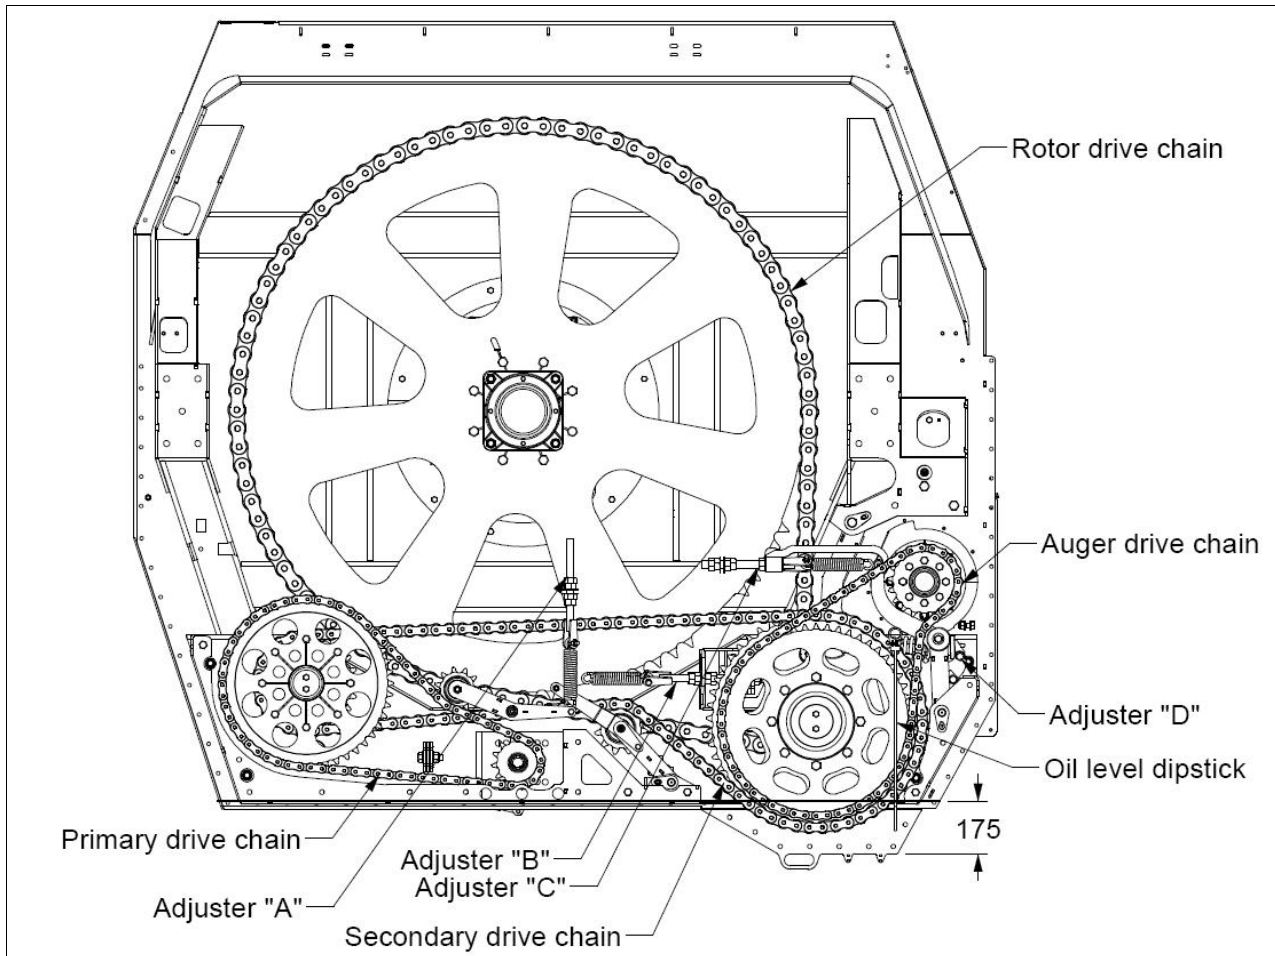

Figure 8: Keenan Mech-Fiber 400 drive system
1. Each week check the condition of the chain tension arms and adjust as required. There are four chains used on the Mech-Fiber 400 model. The primary drive chain (ASA120) drives the primary idler shaft from the input shaft (see figure 8) and the secondary chain (ASA140HS) drives the secondary idler. The third chain (ASA200HS) drives the rotor. The fourth chain (ASA120) drives the auger independently. All four chains are tensioned by a spring assembly on the slack side of the chain.
2. Each day check the level of the oil reservoir (see figure 8). Ensure it is between the 2 indicator marks on the dip stick. The top indicator represents 70 litres of oil (recommended) and the lower indicator represents 50 litres (minimum). If the oil level is low, top it up with chain saw oil (the properties of which allow it cling to the chains longer). Do not use grease on the chains, as it is unsuitable for the application and will not allow lubrication of the vital internal parts of the chain.
Primary Chain: This preload tension can be set by adjusting the vertical threaded bolt in the centre of the drive system (adjuster “A” in figure 8). The correct tension will be applied to the chain when the tension spring is extended to **220mm** between mounting centres. Once set, retighten all locking nuts. **It is recommended to check the tension weekly in the first few weeks of operation as the chain, sprockets and tensioner “beds in” and may need to be adjusted.**
Secondary Chain: The preload tension on this chain can be set by adjusting the horizontal threaded bolt situated behind the secondary idler shaft driven sprocket (adjuster “B” in figure 8). As above the correct tension will be applied to the chain when the tension spring is extended to **220mm** between mounting centres. Once set, retighten all locking nuts.
Auger Chain: The preload tension on this chain can be set by adjusting the horizontal threaded bolt situated to the front of the drive system (adjuster “C” in figure 8). Again, as above, the correct tension will be applied to the chain when the tension spring is extended to **220mm** between mounting centres. Once set, retighten all locking nuts.
Rotor Chain: The preload tension on this chain can be set using the adjuster pivot arm mechanism on the left side of the machine directly below the auger shaft (adjuster “D” in figure 8). To access this mechanism open the top left cover. Open the nut from the M16 fixing bolt and using a spring clamp or a lever bar compress the spring and remove the bolt. Using the same method as before now compress the spring to approx **255mm**. Ensuring that the spring is seated correctly, replace the M16 bolt & nut in the appropriate position and tighten.